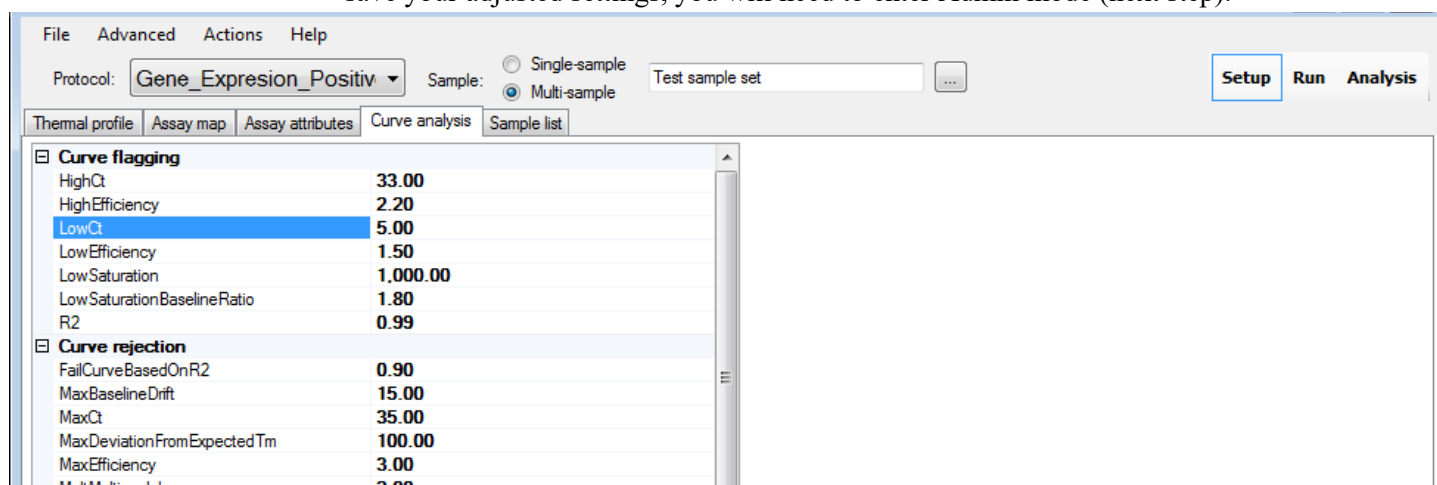

Figure 16. Curve Analysis tab.
- From the *Curve Analysis* tab (Figure 16), adjust your analysis settings as needed. In order to save your adjusted settings, you will need to enter Admin mode (next step).